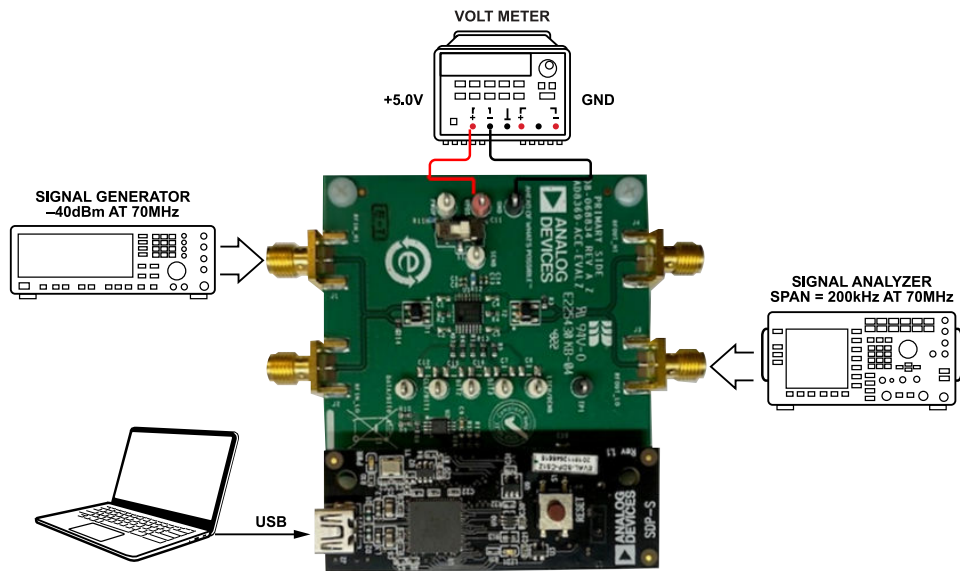

Figure 2. AD8369-ACE-EVALZ Typical Measurement Setup
See Figure 2 for the typical measurement setup.
Signal Generator	Set the source to 70MHz with a -40dBm output signal level (see <a href="#">Figure 2</a> )
Spectrum Analyzer	Connect to port (see <a href="#">Figure 2</a> )
- 1. Configure the hardware according to the Hardware Setup section and what is shown in Figure 2.